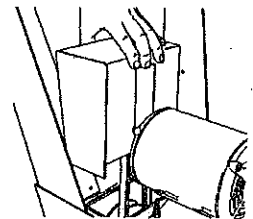

Fig.A-7
10. Place the belt and pulley guard (8) between the legs, as in Fig.A-7, with the motor drive shaft fitting into the guard's slot.